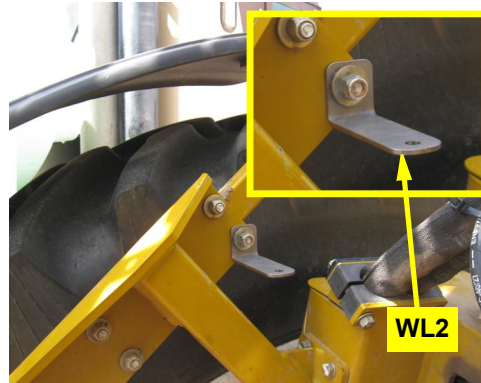

Figure 2b: WAS link rod bracket installed
- b. Locate the two unused holes in the top of the right side axle frame (Figure 2b top right inset). Using hardware **WN** install WAS mounting bracket **WK** on the axle frame (Figure 2b). Mount **WK** with its long side to the rear and have **WN**'s bolts come up from inside the axle box section (so washers and nuts showing - Figure 2b lower left inset).
Figure 2b with insets: Installed WAS mounting bracket
- the center of the machine. Retighten the nut (Figure 2b).